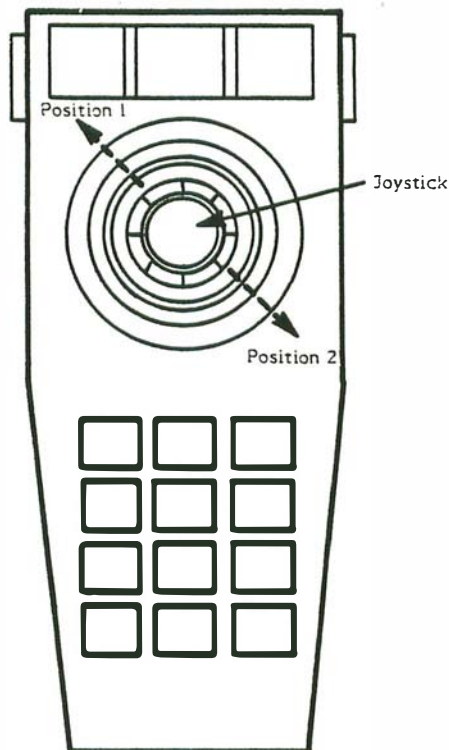

Figure 6-2. Joystick Positions 1 & 2
- 2) Press key 5 and then press START to bring up the Pokey Adjust Screen.
- 4) Move the controller joystick to position 1, as illustrated in Figure 6-2 below. The readings on the screen should be less than 25 for Port 1 (Port 1 - Horizontal and Vertical).
- 5) Move the controller joystick to position 2, as illustrated in Figure 6-2. The readings on the screen should be greater than 190 for port 1.
Use Figure 6-2 on Page 6-3 as reference for Steps 1 and 2.
- 5) Move the controller joystick to position 1 (refer to Figure 6-2). Use an Ohm meter to determine the pot readings through the cable (cable connector Pins 11 & 9 and 10 & 9). The pot reading should be no greater than 50K Ohms.
- 6) Move the controller joystick to position 2 (refer to Figure 6-2). The pot reading through the cable (connector Pins 10 & 9 and 11 & 9) should be at *least* 430K Ohms greater than in position 1.